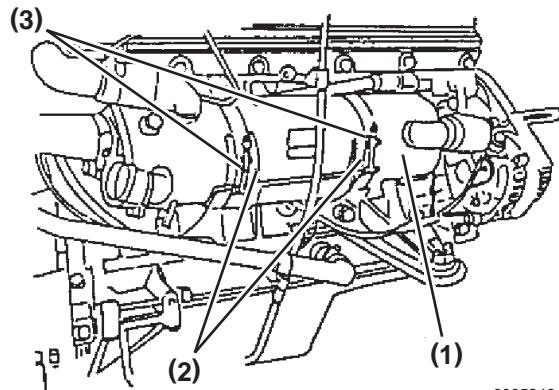

Figure 7-18
1. Disconnect the rubber hose connected to the freshwater cooler (**Figure 7-18, (1)**).
Check the rubber seat (**Figure 7-18, (2)**) holding the freshwater cooler for collapse and cracks. Replace it before failures occur. Check the hose band (**Figure 7-18, (3)**) for damage to the screw, nut and the plate. Replace as needed.